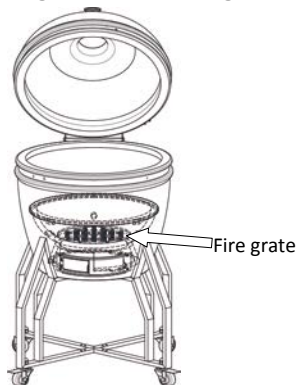

Figure 3
**STEP 5** Place the round, black steel fire grate in the bottom of the firebox. The ash will fall through the holes in the fire grate and collect underneath the firebox. (See Figure 3)